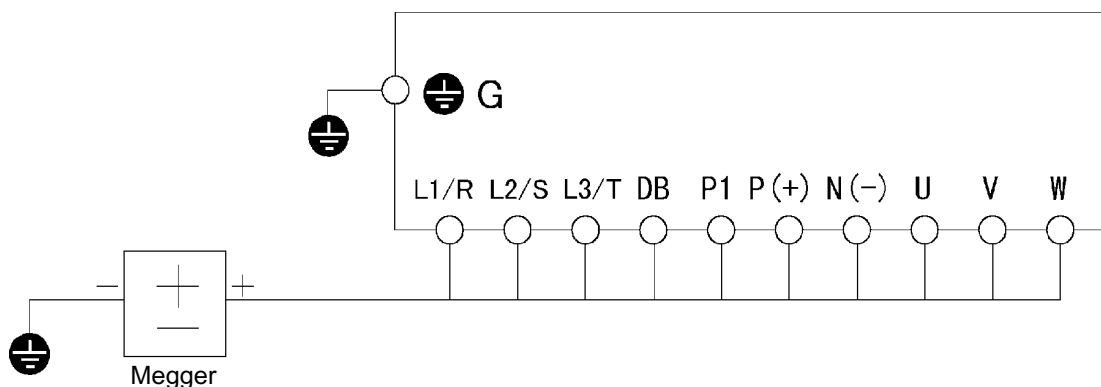

Figure 8-4-1 Megger test
3. Connect the main circuit terminals using common cables as shown in Fig. 8-4-1.